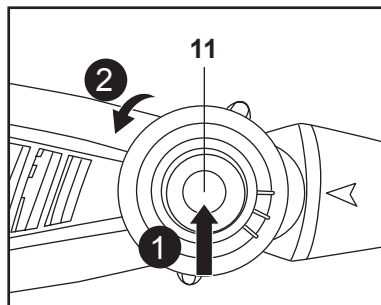

Fig. 25
1. Place the product on a stable, level surface with the angle adjusting button (11) facing upward. We recommend laying a nonflammable sheet under the product.
2. Press the angle adjusting button (11), meanwhile rotate the working head anticlockwise to the required working angle. Please note to align the mark  with the scale around the angle adjusting button (11); and please make sure you hear a “click” when do this adjustment or the angle adjusting button (11) bounces back, or else the working head is not locked well. (Fig. 25,26)